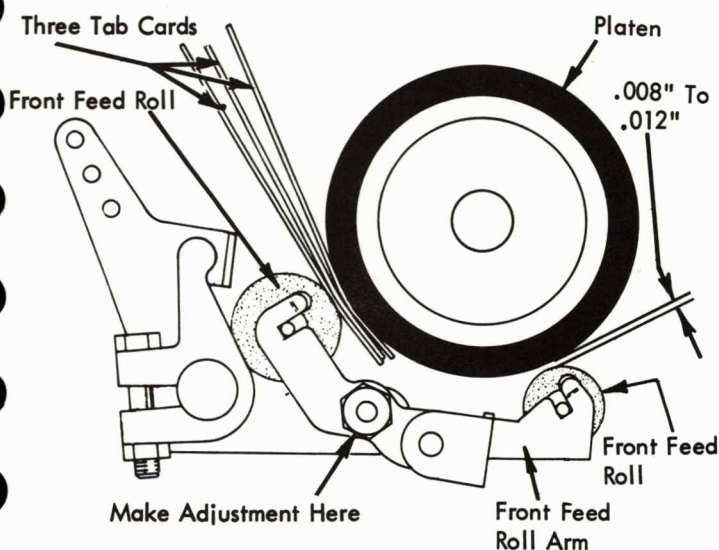

FIGURE 189. Feed Roll Adjusting Eccentrics (Old Style)
- Early - Adjust the eccentrics with the high points to the rear so that three tab cards inserted between the platen and the rear feed rolls will cause a clearance of .008" to .012" between the front feed rolls and the platen (Fig. 189). The clearance should be equal on both ends of the feed roll.